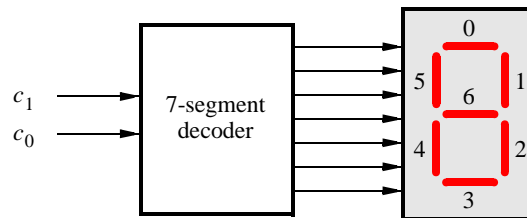

Figure 6: A 7-segment decoder.
The objective of this part is to display a character on a 7-segment display. The specific character displayed depends on a two-bit input. Figure 6 shows a *7-segment decoder* entity that has the two-bit input c_1c_0 . This decoder produces seven outputs that are used to display a character on a 7-segment display. Table 2 lists the characters that should be displayed for each valuation of c_1c_0 for your DE-series board. Note that in some cases the ‘blank’ character is selected for code 11.
2. Create a VHDL entity for the 7-segment decoder. Connect the c_1c_0 inputs to switches SW_{1-0} , and connect the outputs of the decoder to the $HEX0$ display on your DE-series board. The segments in this display are called $HEX0_0, HEX0_1, \dots, HEX0_6$, corresponding to Figure 6. You should declare the 7-bit port